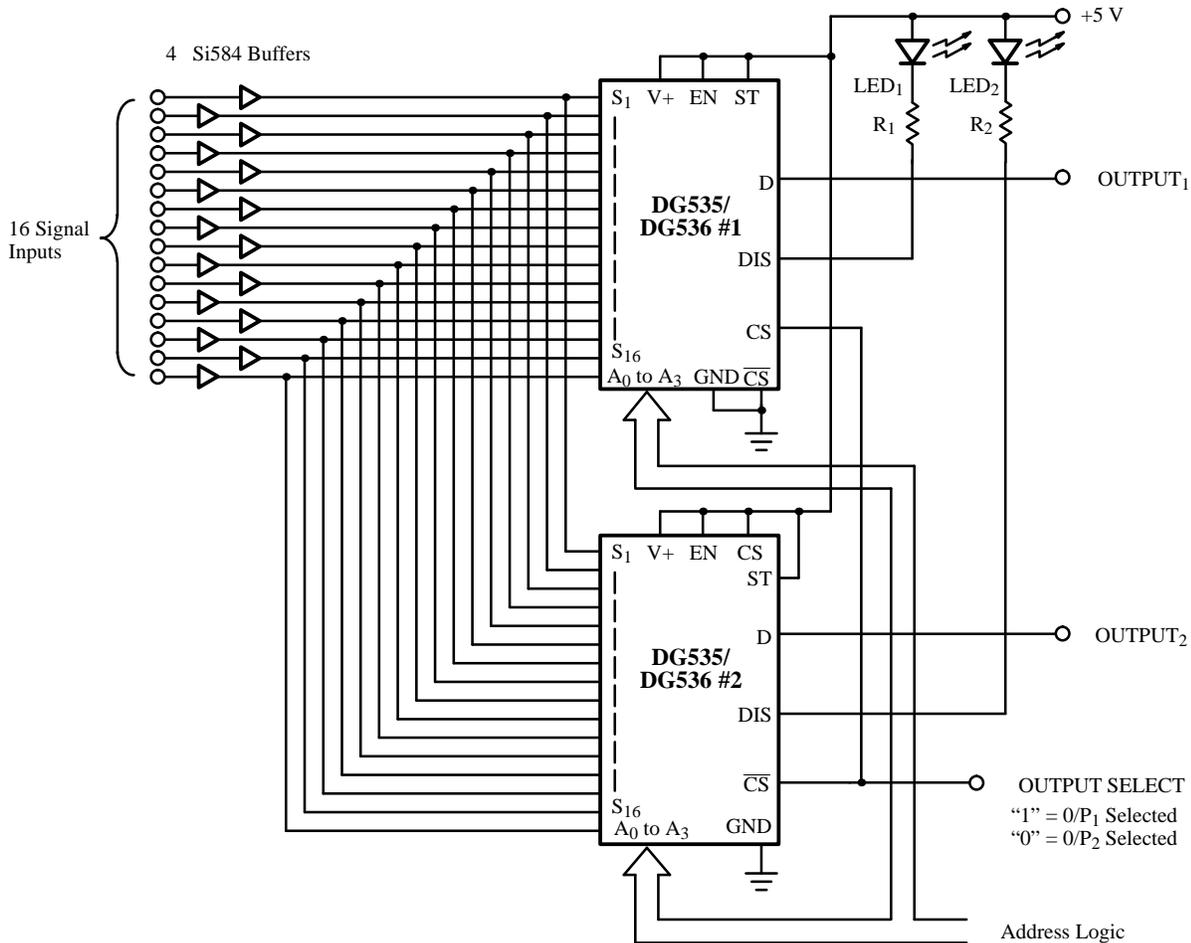
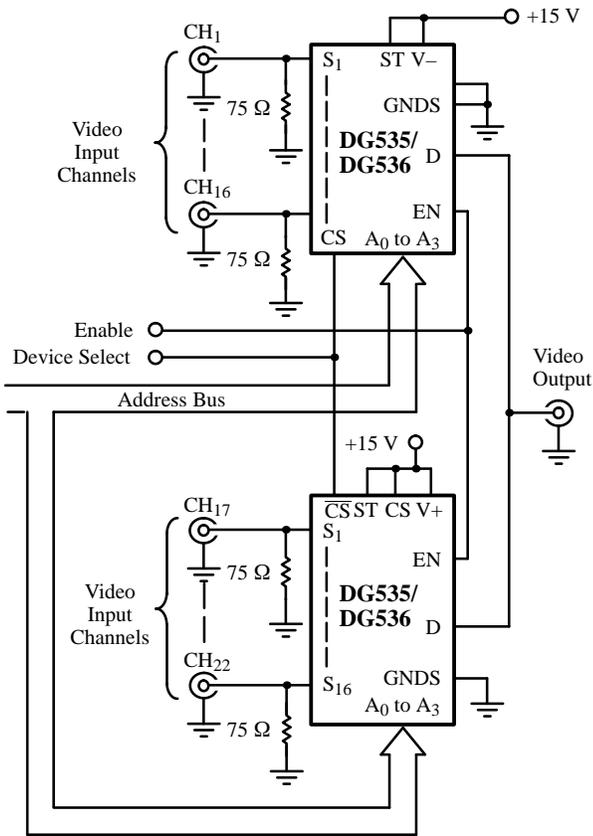
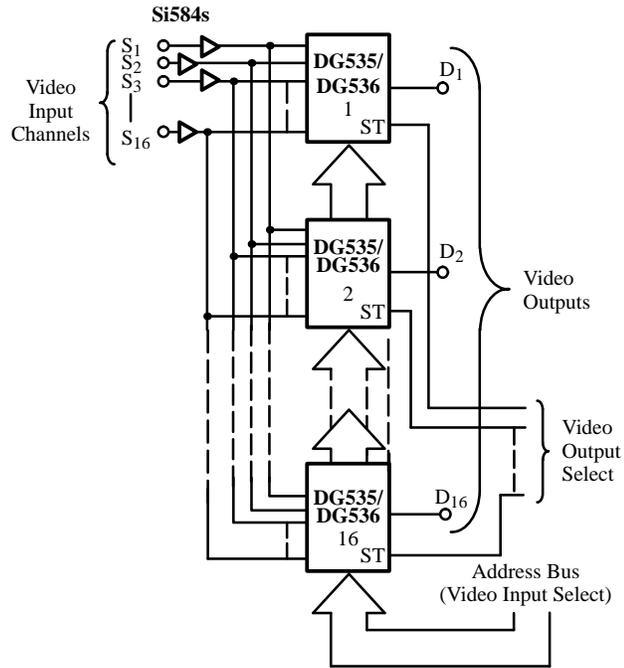

Figure 11. The DG535/536 as a 16 x 2 Matrix Switch
Figure 12. 32-Channel Multiplexer
Figure 13. 16 x 16 Video Crosspoint Circuit
An additional feature, a DIS pin, is an open drain terminal with the source tied to the device substrate. The DIS terminal represents a high impedance to the substrate (normally ground) when the DG535/536 is disabled and a low impedance to ground when the DG535/536 is enabled. This output can be used to indicate which device in a large matrix has been enabled (see Figure 13), or it can be used to switch off circuitry following the multiplexer stages.
Figure 11 illustrates how the DIS (disable) pin can be used to indicate which output is selected. When logic 1 is applied to output select, device 1 is enabled and device 2 is disabled. With device 1 enabled, the DIS pin is connected to signal ground, thus turning LED 1 on. With device 2 disabled (due to \overline{CS} being 1), its DIS pin represents a high impedance to ground and LED 2 is off.
The circuit in Figure 11 also illustrates how the chip select inputs can be used. As shown in Figure 12, a 32-channel single-ended multiplexer can be configured without external chip select circuits. This circuit makes use of the CS and \overline{CS} inputs which allow device selection from a single control line.
The basic circuit shown in Figure 11 can be extended and elaborated to give a 16 x 16 matrix for video crosspoint applications such as central routers used in video studios. This circuit, shown in Figure 13, allows source (or video input) to be connected to any video output (or any number of outputs). The strobe input (ST) on each device is used to latch the appropriate address into that particular device. By strobing the required address into each device sequentially, any crosspoint connection can be made.
The circuit shown in Figure 13 can be used as a digital cross-point to replace expensive, power consuming ECL crosspoint ICs. Besides handling raw digital data, the DG535/536 can also be used for other forms of data transmission, such as FSK and PCM systems.
RZ (returns to zero) PCM data consists of three discrete (ternary) levels to overcome long periods of zeroes (Figure 13). Digital signals can degrade beyond legibility after only a few hundred yards of travel down a transmission line. Therefore, the PCM signals must be regenerated at regular distances to avoid excessive distortion.